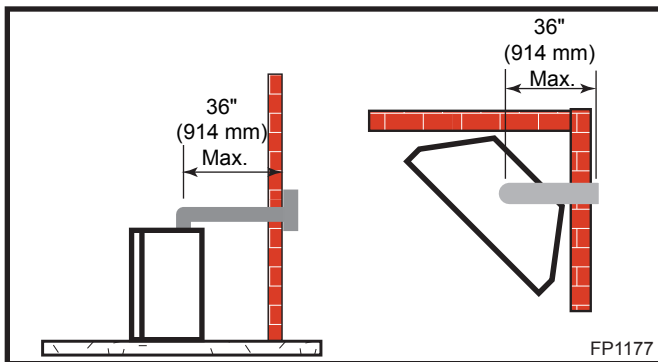
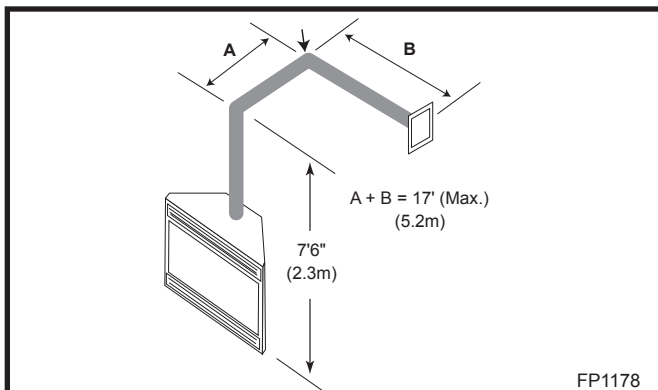

Fig. 29 Maximum horizontal run with no rise.
Fig. 30 Horizontal run reduction.
- If a 90° elbow is fitted directly on top of the fireplace flange, the maximum horizontal vent run before the termination or a vertical rise is 36" (914 mm). (Fig. 29)
- If a 90° elbow is used in the horizontal vent run (level height maintained) the maximum horizontal vent length is reduced by 36" (914 mm). (Fig. 29) This does not apply if the 90° elbows are used to increase or redirect a vertical rise. (Fig. 30, 31)
In Figure 30 & 31, dimension A plus B must not be greater than 17' (5.2 m).